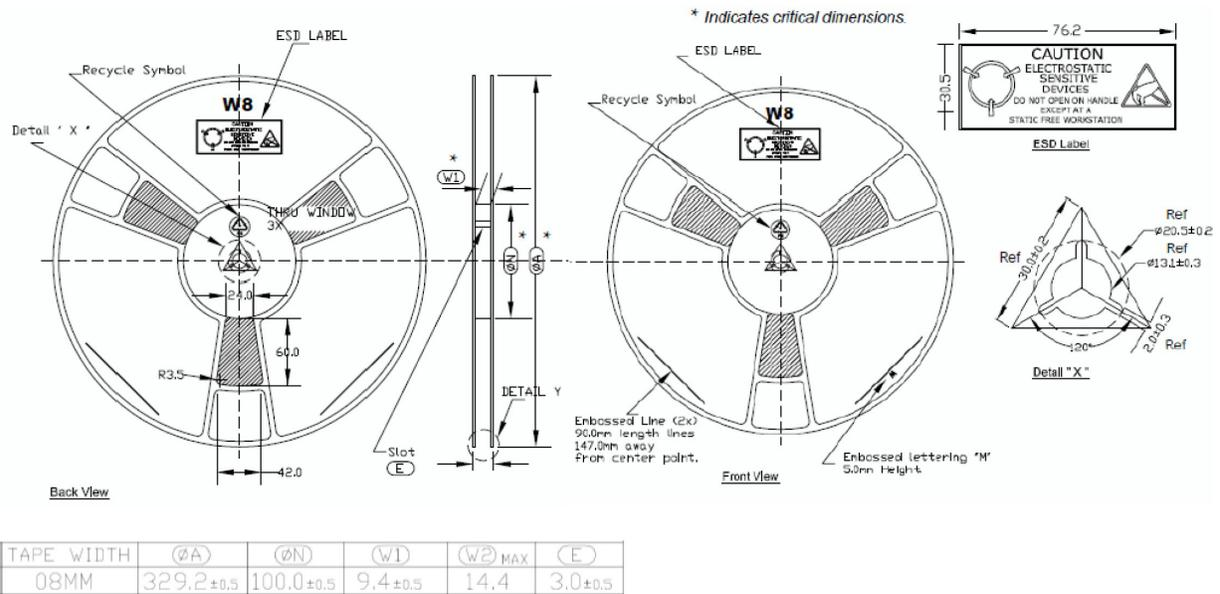

Figure 12. Reel dimensions for SignalSure 30
- Notes for Figures 12 and 13: